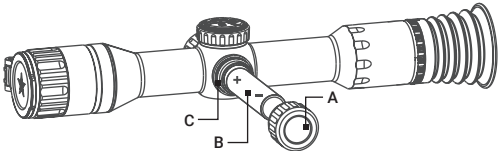

FIGURE 2-2. ADDITIONAL BATTERY INSTALLATION
1. Turn the battery cover (Figure 2-2, A) counterclockwise to open it.
2. Insert 18650 rechargeable battery (B) into the battery compartment (C) with the positive mark inward.